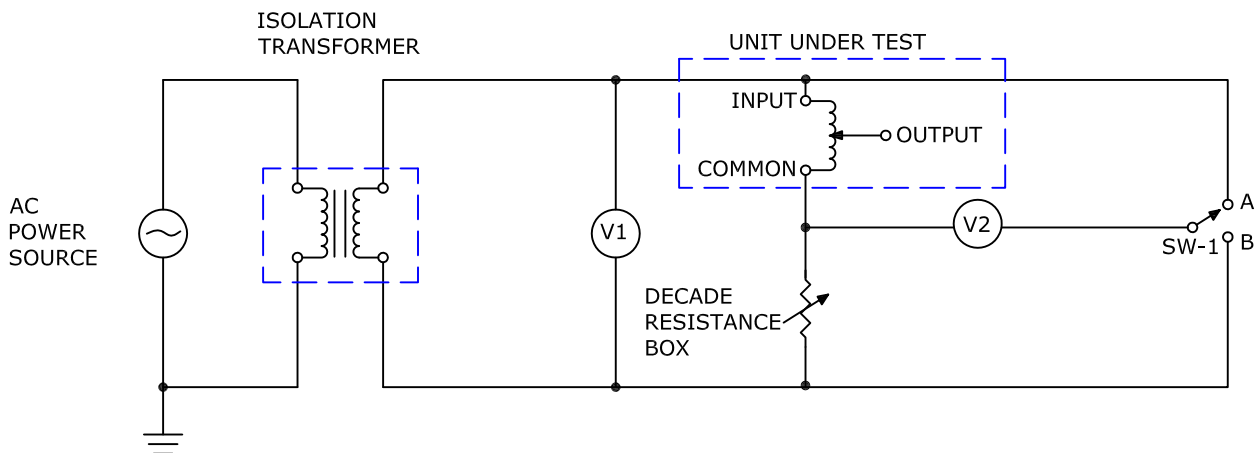

Figure 7-2. Impedance Test Setup
- a. Connect unit into test setup as shown in Figure 7-2.